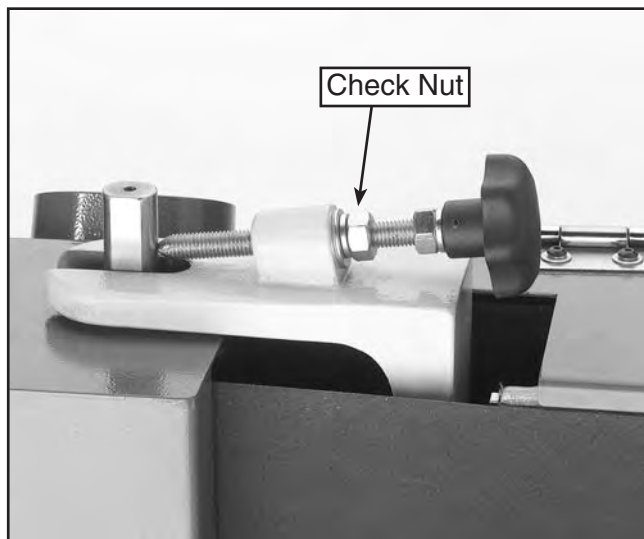

Figure 12. Belt tracking knob.
4. Loosen the check nut shown in **Figure 12**.